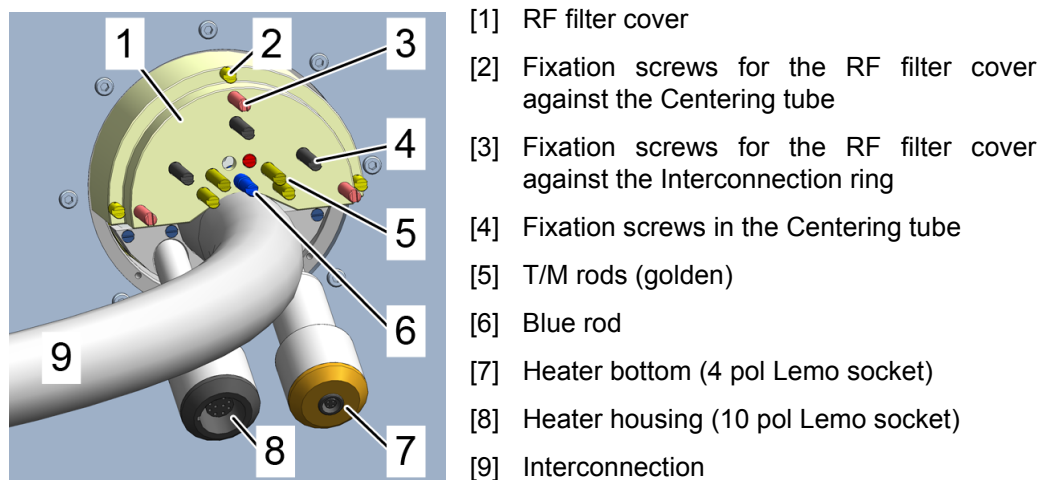

Figure 4.9: Tuning/Matching (T/M) assembly installed in magnet with CCM box.
The MRI CryoProbe system has a Tuning/Matching (T/M) assembly (Figure 4.9). There are two system types available:
When the T/M assembly is completely inserted, the RF filter covers the T/M assembly. The cap itself can be fixated with screws at the door of the CCM box (Figure 4.9(2)).
If necessary, it is possible to adjust the tuning and matching of the system by turning the T/M rods (Figure 4.9 (5)).